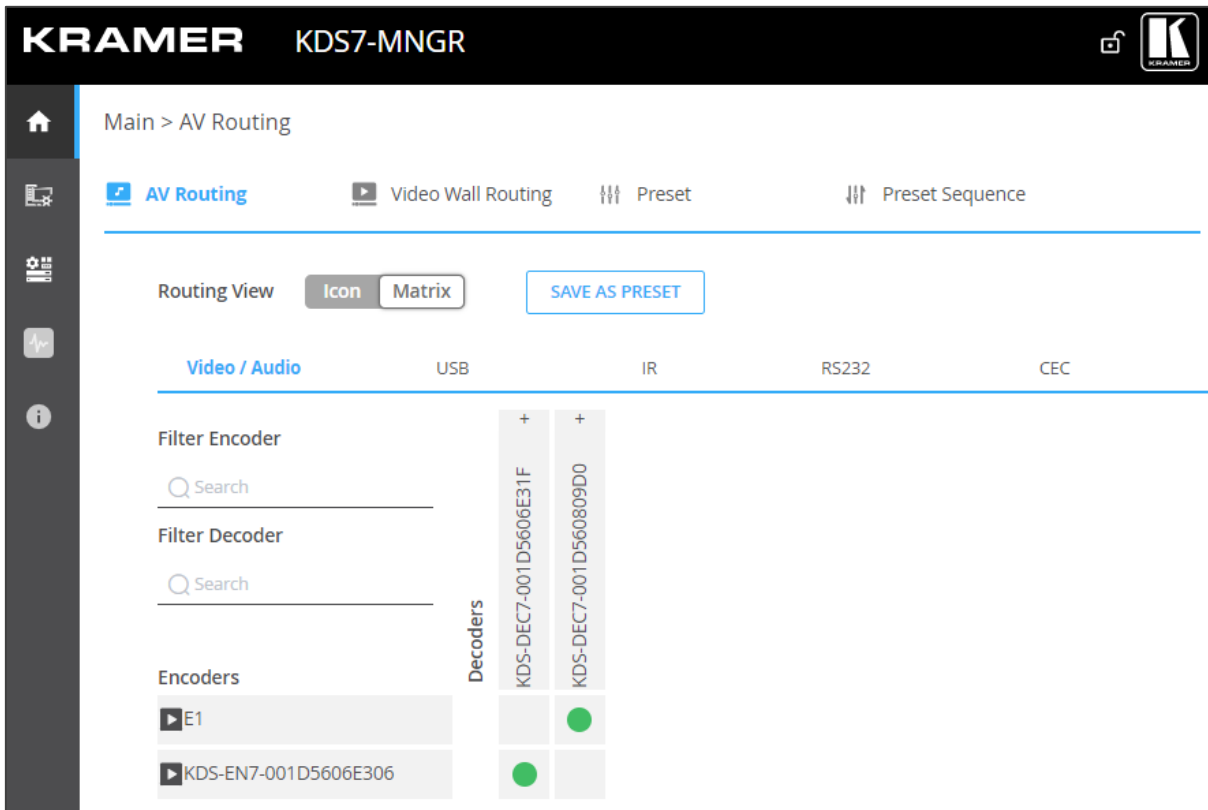

Figure 9: Controller Application Page with Navigation List on Left
1. In the Navigation pane, Select **Main>AV Routing**. The AV Routing page appears (see Figure 9).
2. Next to **Routing View**, click **Matrix** (default) to view the system as a matrix (see Figure 9) or click **Icon** to view each encoder/decoder as icons.
1. In the Navigation pane, Select **Device Management>Devices**. The Device Management page appears (see Figure 9).